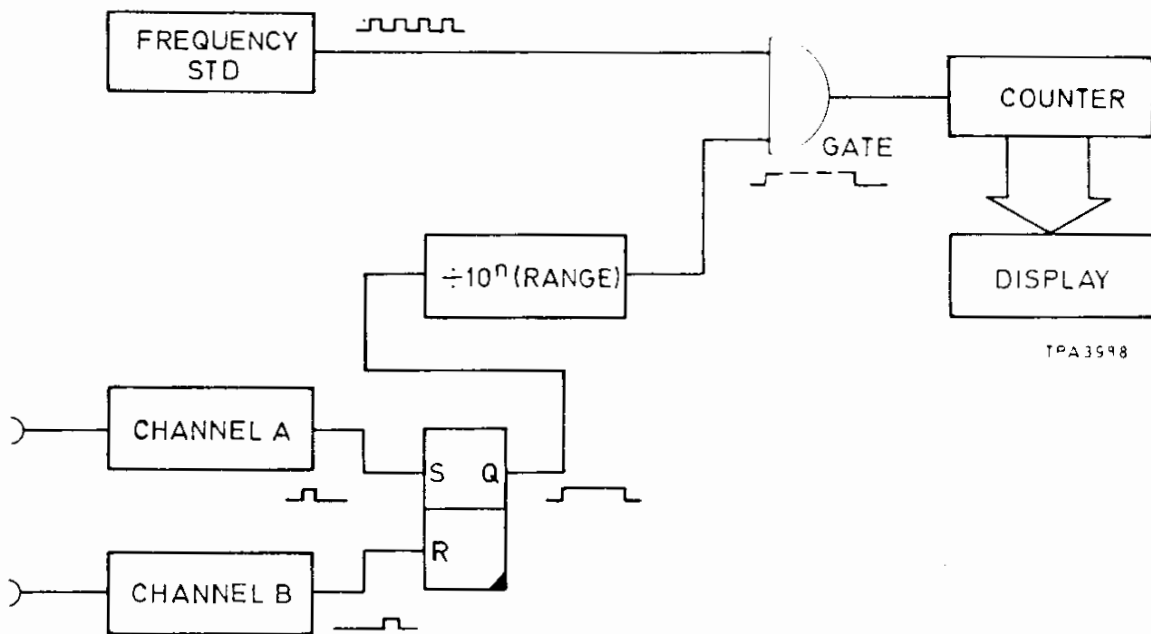

Fig. 5 T INT A-B mode
6. The T INT A-B mode, see Fig. 5, is similar to the period mode except that the gate control signal is obtained in a different way. An input to channel A produces a pulse which sets the bistable Q output high. An input to channel B produces a pulse which resets the bistable Q output low. In the single time interval mode, the output of the bistable is used directly to open and close the counter gate. In the time interval averaging mode, successive outputs from the bistable are divided to produce a control signal that allows a succession of time interval gating cycles to admit pulses to the counter.